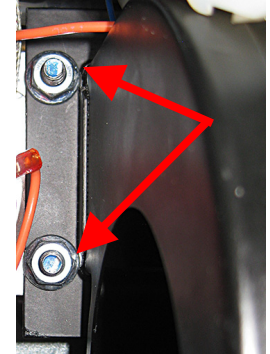

Figure 3
6. Remove the blower by removing the four (4) 7/16" nuts (see Figure 3).